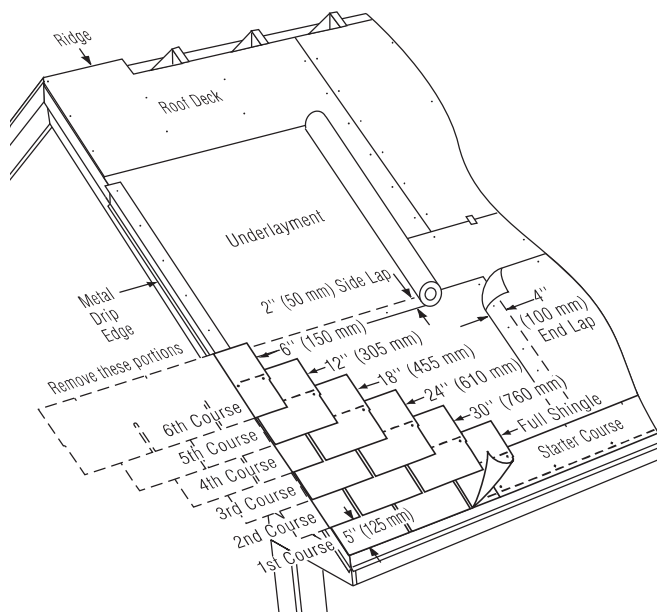

Figure 10-8: Applying the first 6 courses on a standard slope.
**1ST COURSE:** Apply a full shingle at the lower left corner of the roof. Make tabs lie flush with the edges of the starter course. In this way, sealant on the starter strip will adhere to the first-course tabs and help keep them from lifting in high winds (Figure 10-8).
1. Cut 6" off the left side of a shingle and install this 30" piece over and above the first-course shingle, in line with the left edge of the starter course. Leave the 5" tabs of the first-course shingle exposed (*Figure 10-8*).
2. Cut 12" off the first shingle of the third course, 18" off the first shingle of the fourth course, 24" off the first shingle on the fifth course, and 30" off the first shingle of the sixth course. Apply each with its left edge in line with the previous course (*Figure 10-8*).